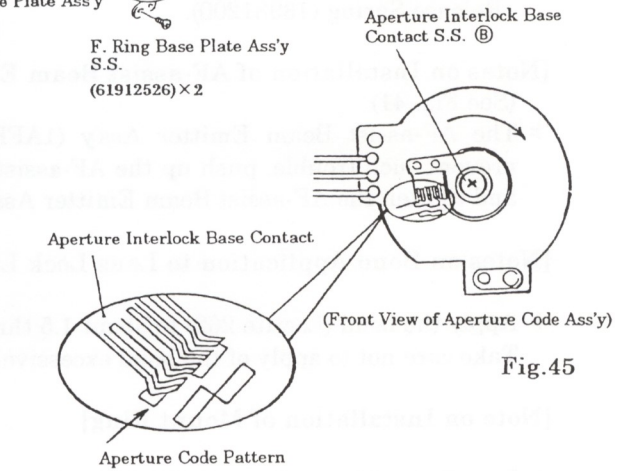

Fig.45
- 4) As a preliminary turning, turn the Aperture Interlock Base Contact of the Aperture Code Ass'y (1AAAB360) in the direction of the arrow. Then install the Mount Base so that the center of the round end of the Aperture Interlock Base Contact is placed on the second aperture code pattern. (See Fig. 45)
If it is dislocated, loosen the Aperture Interlock Base Contact Setscrew (B) and adjust the position again. (See Fig. 45)